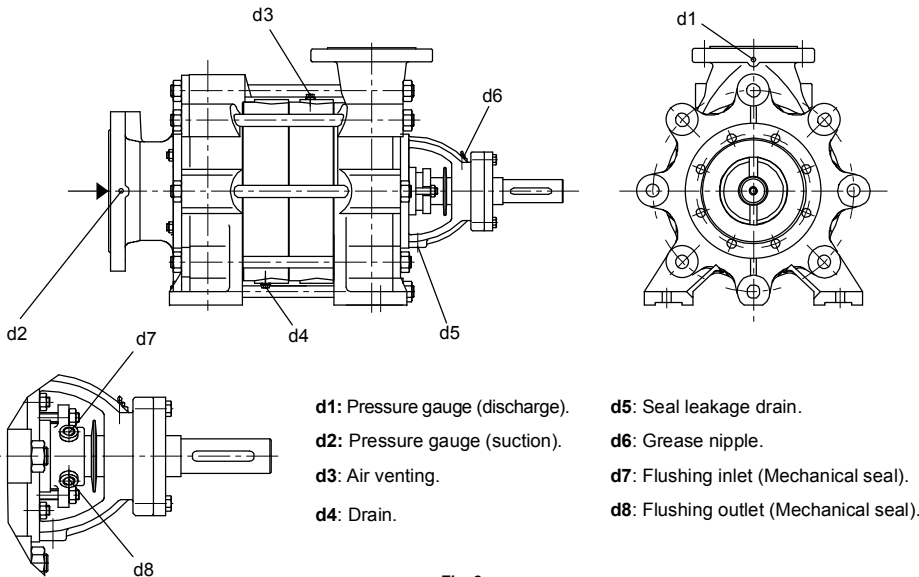

Fig. 8
- Every pump is fitted with connections on the pump casing to drain the pump and on the bearing bracket to evacuate the seal leakage from the stuffing box (**Fig. 8**). If required the pump drain and seal leakage can be piped to a suitable reservoir. The pump draining piping must be fitted with an isolating valve and both must be suitable for the maximum operating pressure of the pump.
- Cooling, sealing and flushing of seal piping must be connected only to the designated connections located on the pump (**See Fig. 8**).